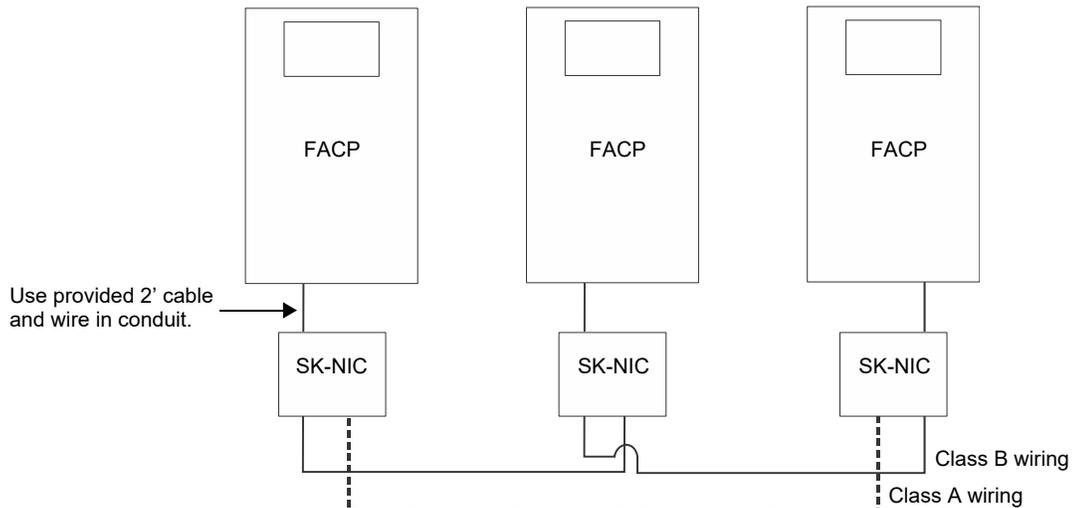
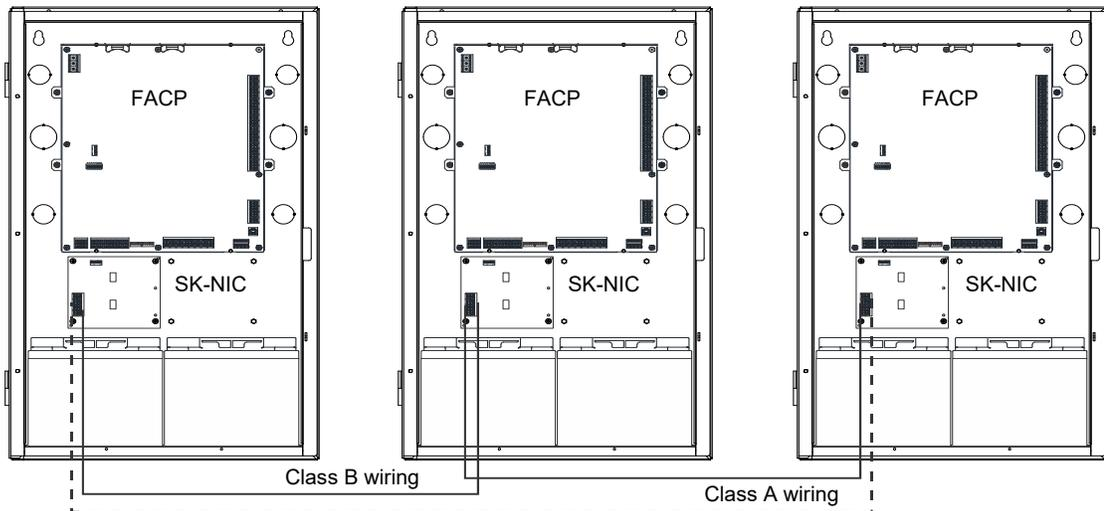

Figure 5.1 External SK-NIC Wiring Option
Figure 5.2 Internal SK-NIC Wiring Option
When networking a group of 6808 you must use the SK-NIC to link the panels together. See Figure 5.1 and Figure 5.2, for Internal mounting or external mounting of SK-NIC options
1. Align the SK-NIC over the standoffs on the back of the 6808 cabinet and secure with supplied screws. Refer to Figure 5.2 for location of standoffs.
Follow the steps above except, the 6-pin cable that runs from the SK-NIC to the 6808 must be run in conduit. Refer to Figure 5.1.